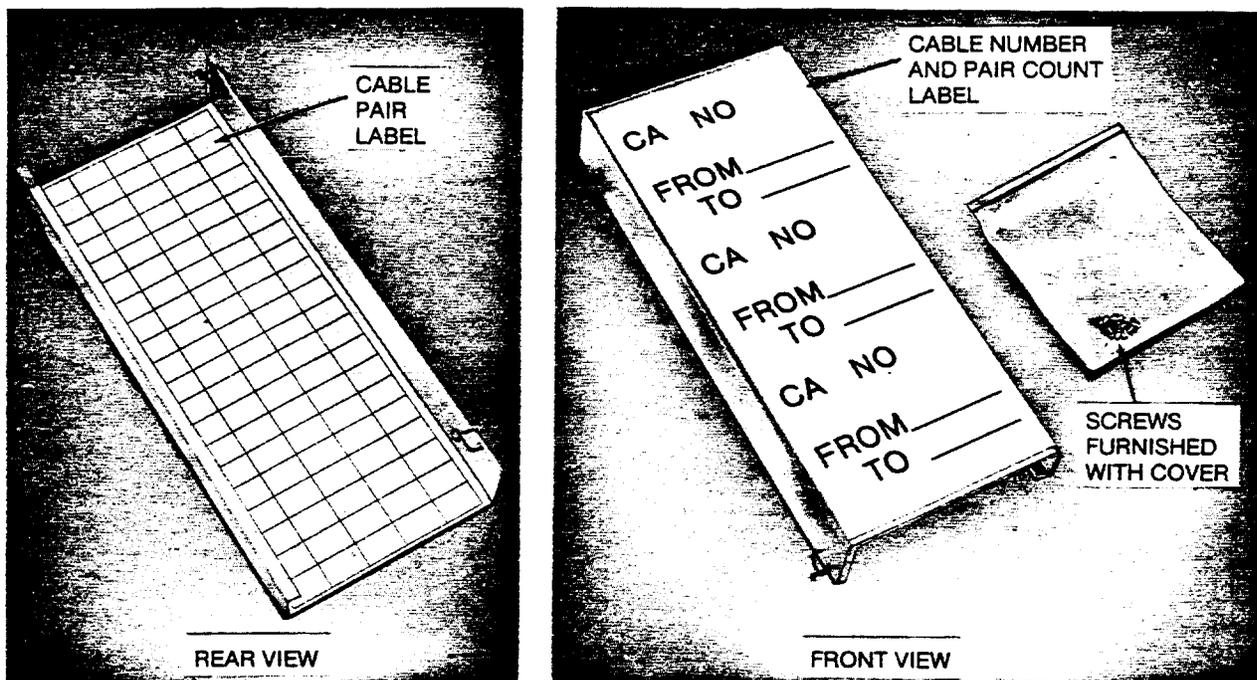

Figure 11. Safety Cover
**3.11** A safety cover is available from Monarch Molding, Council Grove, Kansas, 66846, as an accessory item for the 310-type connector. The cover, Part No. SC-794, is used to identify cable and cable pairs when split cable counts occur within the 100-pair complements of the connector. Labels are furnished and attached to the cover as shown in Figure 11.